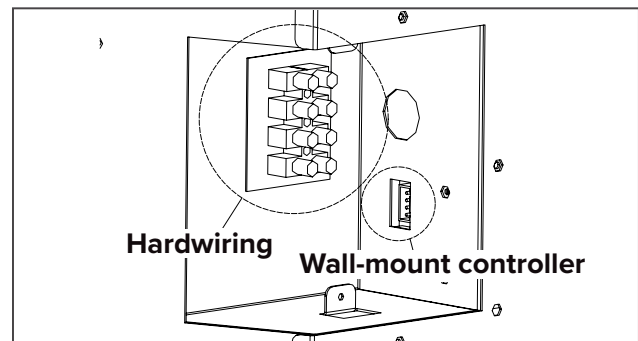

Fig. 2
2. With the appliance in the rough-in framing, insert far enough into the enclosure to locate the supply wires to the terminal block **(Fig.2)**.